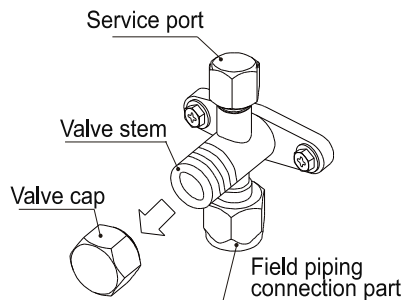

Fig.1
- The following figure shows the names of each component required to process the stop valve(Fig.1).